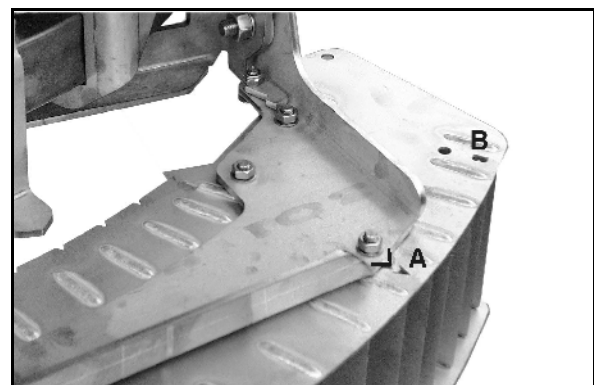

Fig. 49
On the upper side of the border spread deflector you will find on the right hand and left hand side each one setting lock (Fig. 49).
1. Slacken the nuts (Fig. 49/1) of the setting locks.
3. Position the setting locks up (Fig. 49/2) to the stop and firmly tighten the locks.